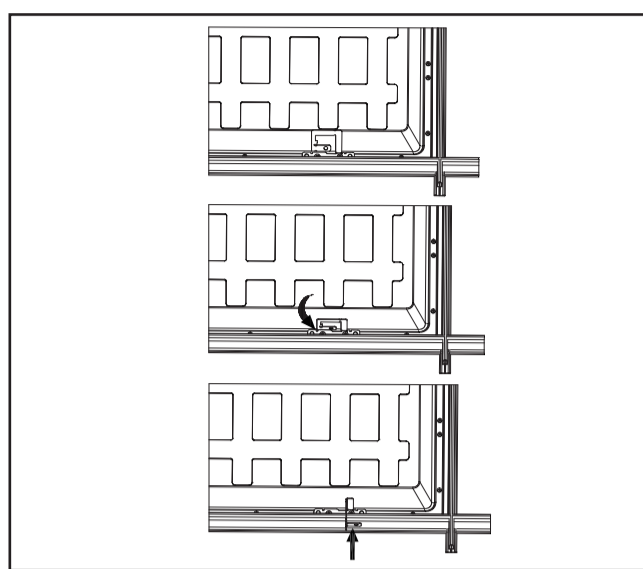

Figure 3.
- Grid clips are provided for additional retention to ceiling system. Orient 4 tabs on back of fixture over T-GRID by bending tabs up 90 degrees perpendicular to back of fixture. Bend screw tabs 90 degrees from grid clip and then 90 degrees toward T-GRID frame. For additional securement, drive a self drilling screw (not provided) through the screw tab and into the T-GRID (Fig. 3).